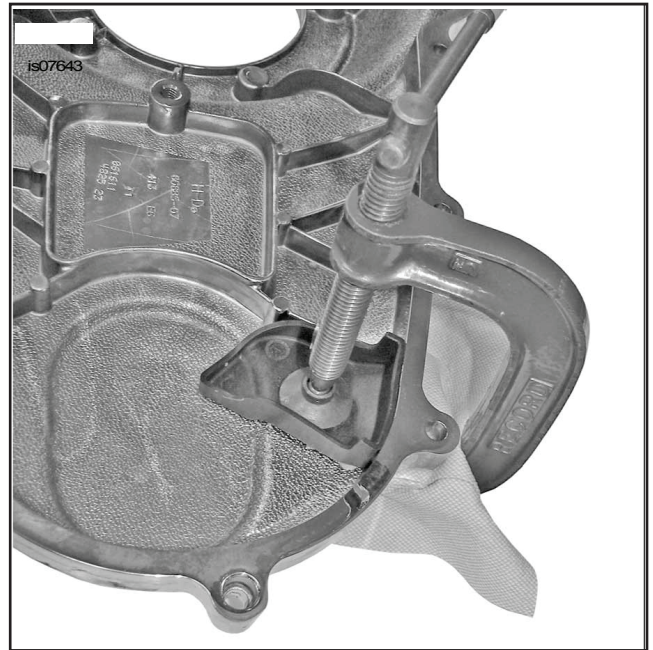

Figure 4. Clamp Components Together
6. See Figure 4. Protect the outside surface of the primary cover to avoid damage. Secure the oil deflector in place using a C-clamp. Allow approximately 30 minutes before handling.